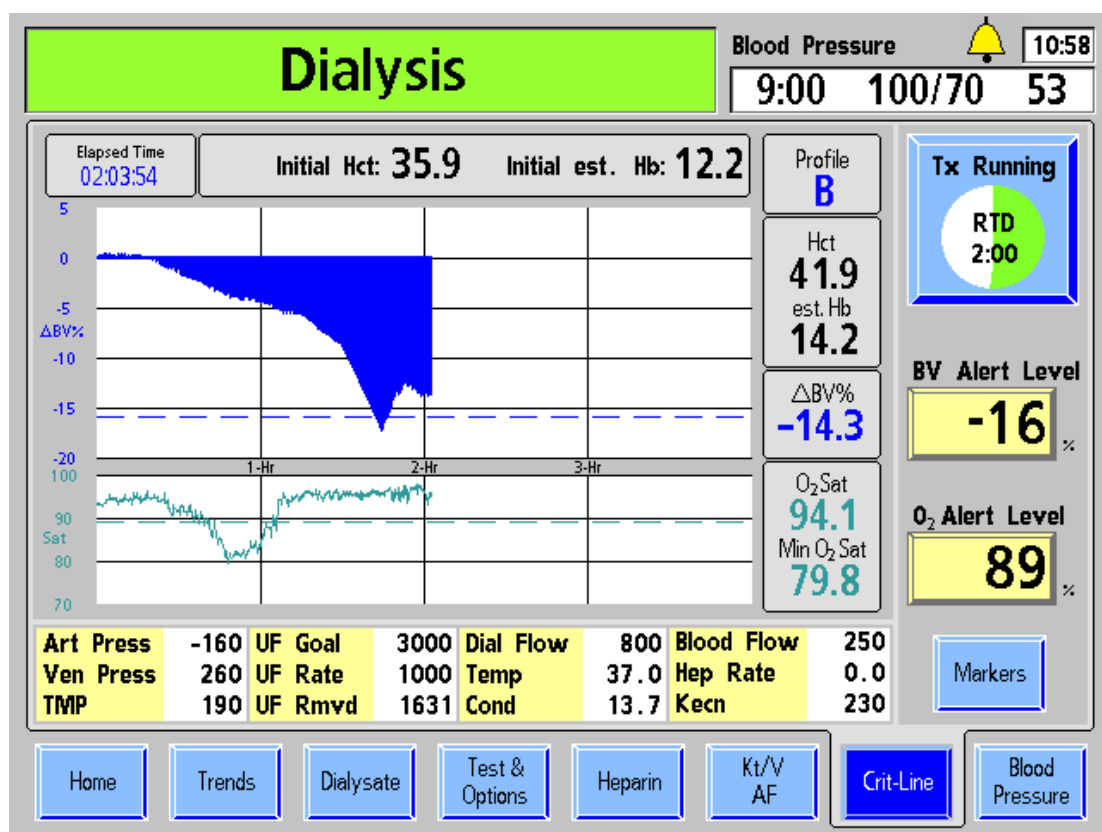

Figure 77 – Crit-Line Screen (Showing BV and O₂ Saturation)
The “Crit-Line” screen can display either Blood Volume (BV) (see Figure 77 on page 156) or Hematocrit (Hct) (see Figure 78 below) on the upper graph depending on the Service Mode setting.
The BV (Blood Volume) graph (Figure 77 on page 156) is displayed as a fill graph. A line is filled from 0 to the Δ BV% value. As the dialysis treatment progresses, fluid is taken out of the blood by the 2008T hemodialysis machine’s ultrafiltration pump. This will result in a greater percentage of the blood being red blood cells and the blood volume fill graph will trend downwards and approach the alert level. The BV alert level is drawn as a blue dotted line across the BV graph.
Oxygen saturation is the default display on the “Crit-Line” screen’s bottom graph. The O₂ Sat (Oxygen Saturation) graph (Figure 77 on page 156) is a line graph drawn from the previous oxygen saturation value. The O₂ Alert Level is drawn as a green dotted line across the Oxygen Saturation graph.